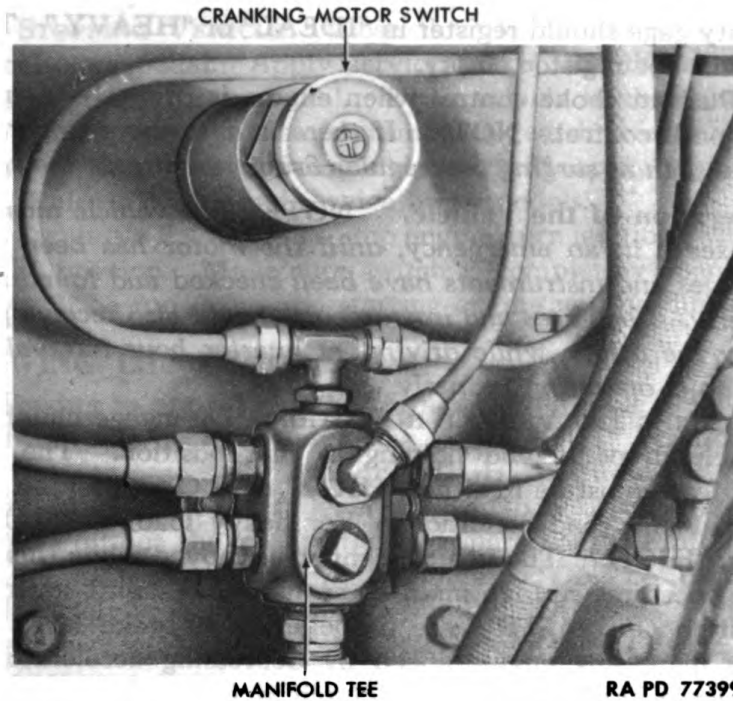

Figure 5 — Cranking Motor Switch and Oil Manifold Tee Installed
r. Cranking Motor Switch (fig. 5). This is a foot operated switch located on the dash panel above the clutch pedal. Its purpose is to complete the electrical contact between the storage batteries and the cranking motor.
(a) Universal gear lubricant, SAE 80, where specified on figures 5 and 6 or War Department Lubrication Guide, is suitable for temperatures as low as -20°F . If consistent temperature below 0°F . is anticipated, drain the gear cases while warm and refill with grade 75 uni-